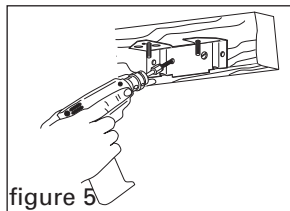

figure 5
2. Remove old box and bracket. Mount the sidemount bracket to the joist using the two wood screws provided (figure 5).